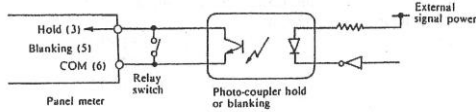

Figure 4
An indication is distinguished by a short circuit between the terminals of blanking(5) and COM(6). This connection is for power saving. However, polarity indication(-) and decimal point is not distinguished. Because the input terminal(LO), and common terminal(COM) are not insulated from one another for direct currents in the meter, a mechanical contact such as a relay switch is preferred for control signals. To control the meter with a TTL or a transistor, use a circuit with a photo-coupler as shown in Figure 4.
Models with BCD output(option) have holding terminal for upper terminal. Since this terminal is isolated, a circuit as shown in Figure 4 is not necessary.